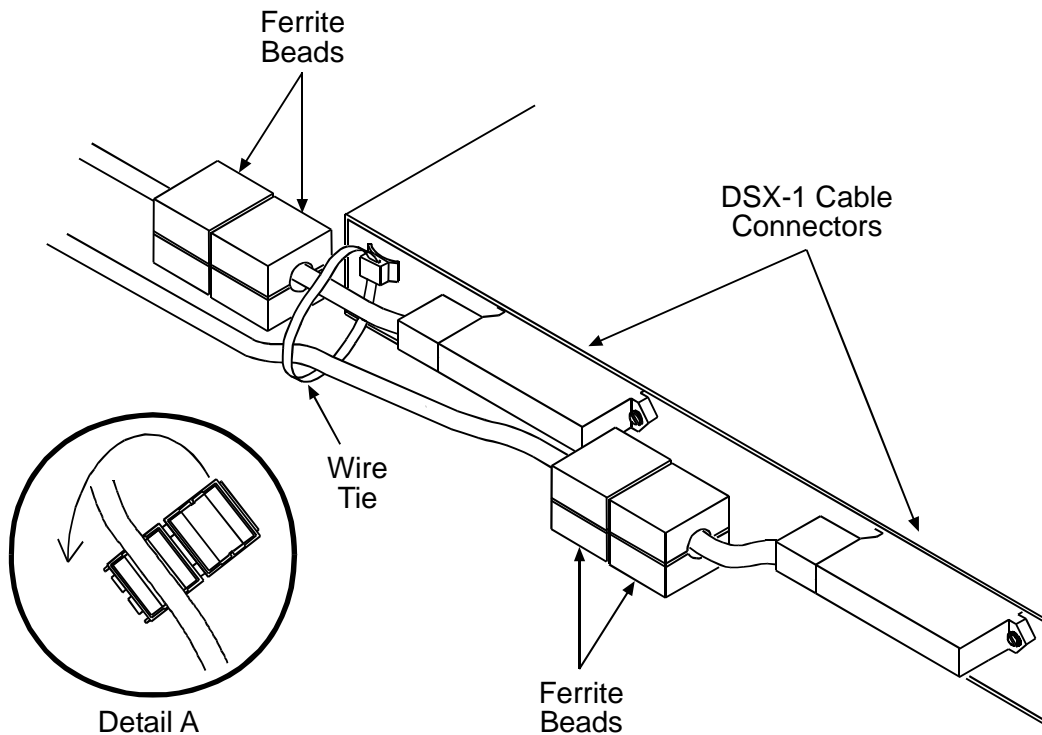

Figure 6-6. Attaching Ferrite Bead RF Suppressors
1. Obtain two ferrite beads to attach each DSX-1 cable (see Figure 6-6).
2. Position ferrite beads for most convenient cable dressing and wire tying (see example in Figure 6-6). Location is not critical.
3. Open the snap-on ferrite beads along hinge cover (see Figure 6-6, Detail A).